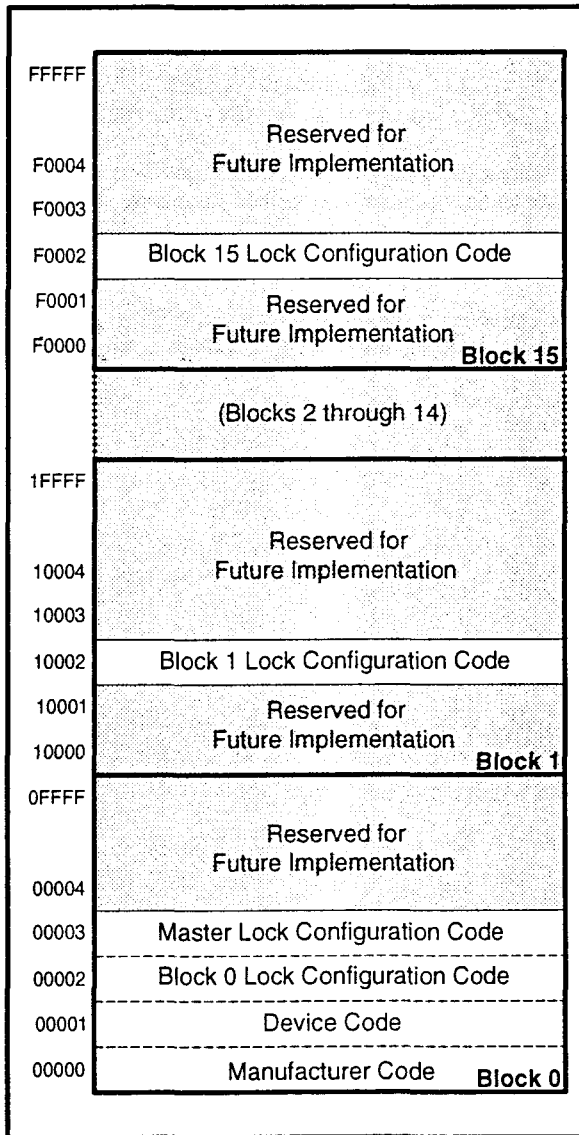

Figure 7. Device Identifier Code Memory Map
The read identifier codes operation outputs the manufacturer code, device code, block lock configuration codes for each block, and the master lock configuration code (see Figure 7). Using the manufacturer and device codes, the system CPU can automatically match the device with its proper algorithms. The block lock and master lock configuration codes identify locked and unlocked blocks and master lock-bit setting.
IA=Identifier Code Address: see Figure 7.
The identifier code operation is initiated by writing the Read Identifier Codes command. Following the command write, read cycles from addresses shown in Figure 7 retrieve the manufacturer, device, block lock configuration and master lock configuration codes (see Table 5 for identifier code values). To terminate the operation, write another valid command. Like the Read Array command, the Read Identifier Codes command functions independently of the  $V_{PP}$  voltage and RP# can be  $V_{IH}$  or  $V_{HH}$ . Following the Read Identifier Codes command, the following information can be read:
- X selects the specific block lock configuration code to be read. See Figure 7 for the device identifier code memory map.